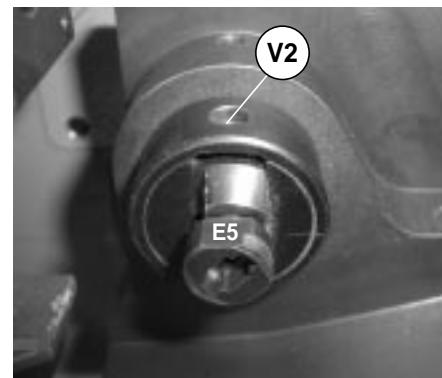

Fig. 57
- 4) Fit the adapter **E5** into the **K1** tailstock so that the initials **E5** are facing upwards and the adapter is butting well up against the **K1** tailstock grips (fig. 57).